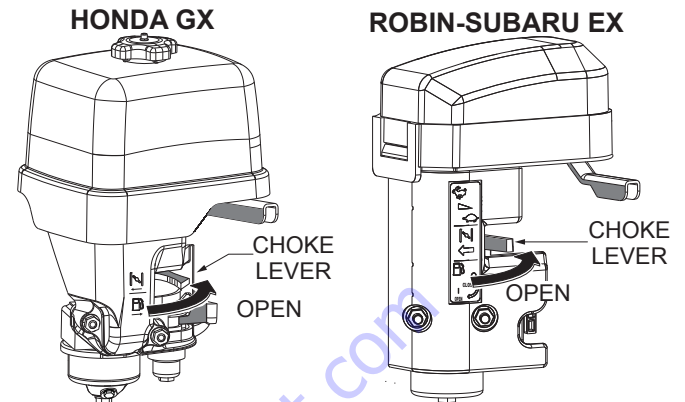

Figure 31. Choke Lever (OPEN)
- If starting a warm engine, place the choke lever in the **OPEN** position (Figure 31).